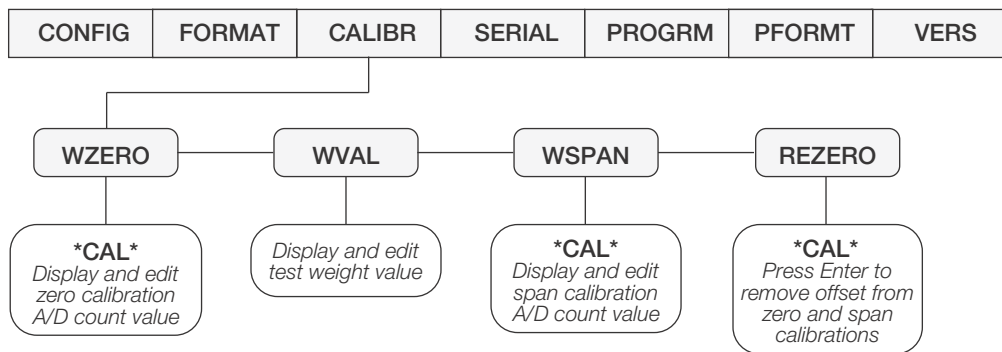

Figure 5-1. Calibration (CALIBR) Menu
2. Press \triangleright until the display reads *CALIBR* (see Figure 5-1). Press ∇ to go to zero calibration (*WZERO*).